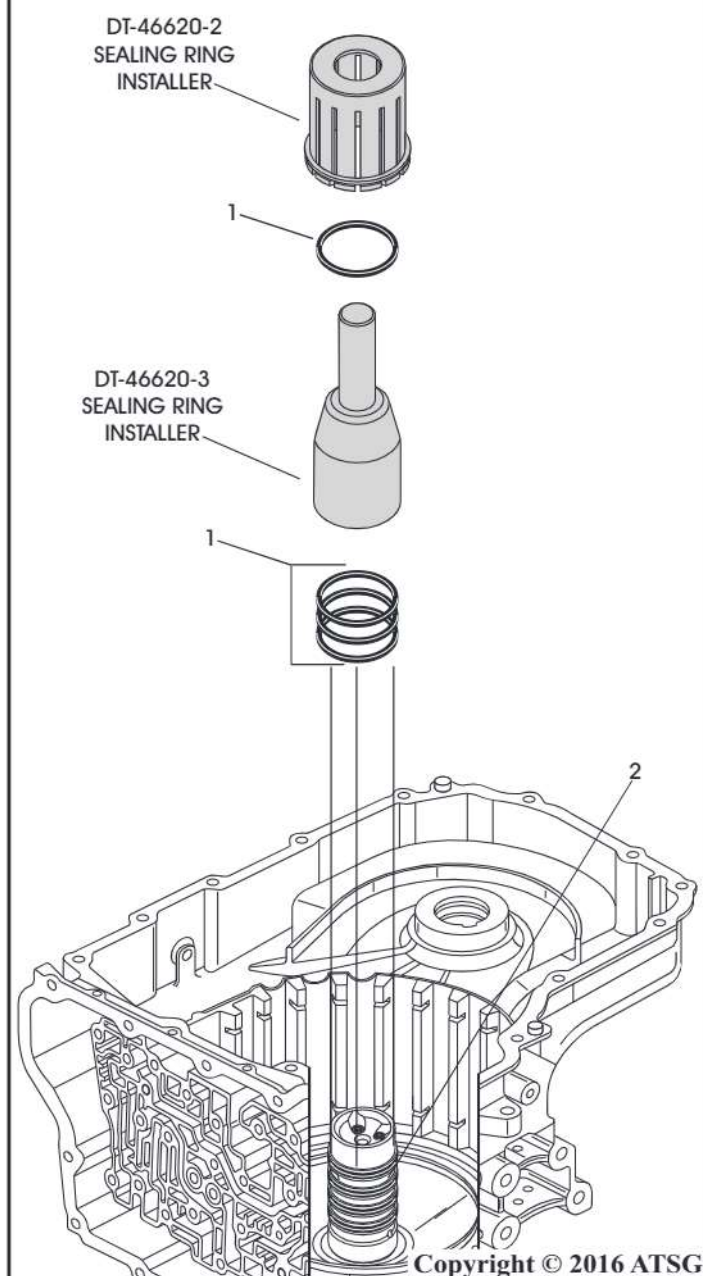

Figure 147
21. Slip one sealing ring over the DT-46620-3 seal installer as seen in Figure 147.
22. Slip the DT-46620-2 sealing ring installer over the DT-46620-3 and push down until the sealing ring is installed into the ring groove as seen in Figure 147.